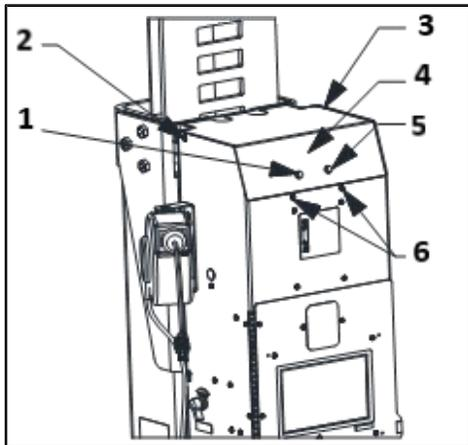

Fig. 21: Checking down stop catch pawl position
2. The green light shown in Fig. 21, Pos. 1 should be on.
2. Remove the top cap cover by loosening the 4 screws shown in Fig. 21, Pos. 2 and then lifting up on the cover to remove it.